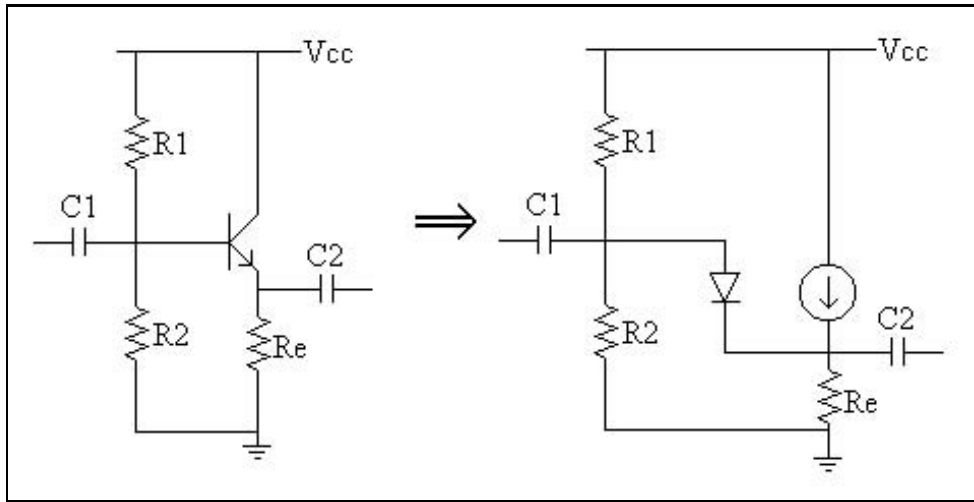

Figure 2.12: Emitter Follower Circuit
The emitter follower (EF) configuration is shown in Fig. 2.12.
From Fig. 2.12 we see that the input is into the base (just as with the CE amp), but the output is at the emitter. We can thus use our knowledge of BJT's to immediately see that the voltage gain of an EF amp is approximately 1. Since the emitter voltage is always approximately 0.7V below the base voltage, if a small signal is applied to the base, then you will see that same signal at the emitter, just offset by 0.7V. Since the voltage gain actually reflects the change of voltage, and since the change at the base and emitter are approximately the same, the voltage gain is approximately one. To see this analytically, substitute the BJT with its equivalent circuit as shown above. First perform the base-emitter loop analysis.
1. Set up the EF circuit of Fig. 2.12 using the following values $R_1 = 10K$, $R_2 = 10K$, $R_E = 10K$, $C_1 = 0.1\mu f$, $C_2 = 0.1\mu f$.